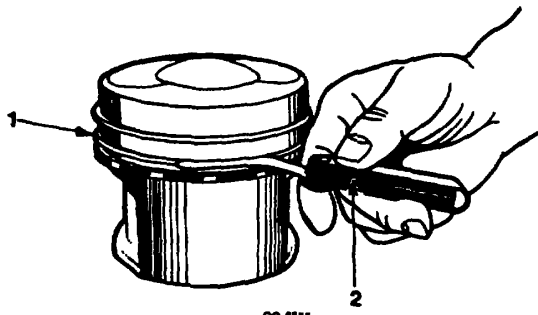

Figure 71. Checking Ring Side Clearance
15. Second compression ring and oil control ring should be checked for side clearance in the groove of the piston on which they are to be installed. This is done by placing outer edge of ring in the piston groove, rolling ring entirely around piston to make sure there is no binding and ring is free in the groove. With a feeler gauge, check side clearance of each ring in its respective groove (Figure 71). See SPECIFICATIONS for proper clearance.